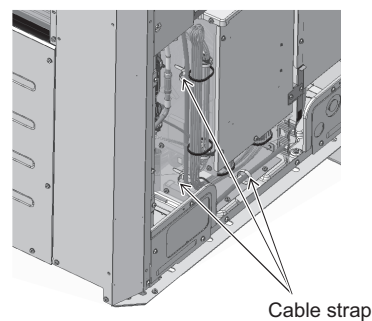

Figure 6
- (7) Remove the cable straps to disconnect the wiring. (See Figure 6.)